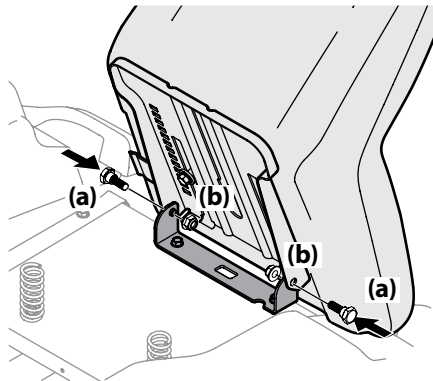

Figure 2-9
- Rotate the seat into position and secure the seat into place with the previously removed shoulder screws (a) and flange lock nuts (b). Be careful not to crimp or damage the wire harness while installing the seat. See Figure 2-9.